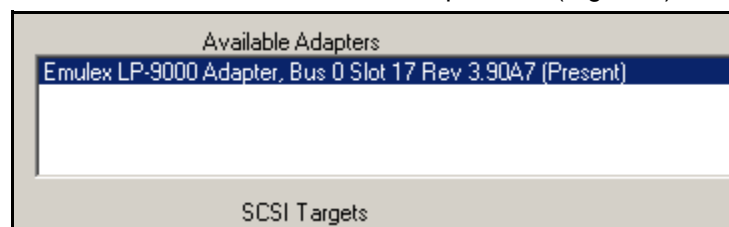

Figure 2: elxcfg Utility, Available Adapters List
2. Locate and select an HBA from the Available Adapters list (Figure 2).